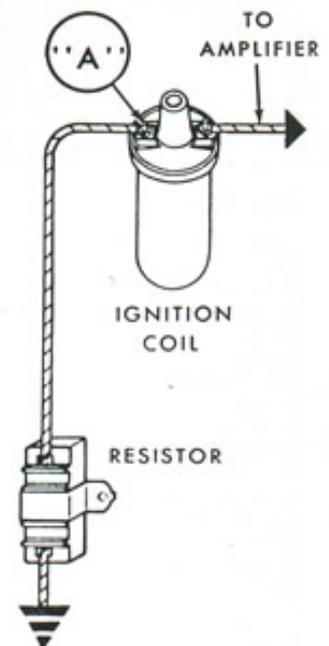

Figure 7—Coil and resistor as connected on some systems.
3. The resistor and coil connected as shown in Figure 4 or, instead, the coil and resistor connected as shown in Figure 7.